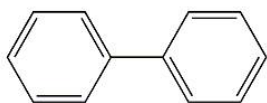
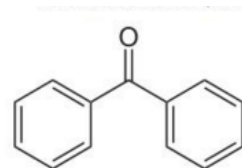

Figure 8: molecular structure of Biphenyl
Figure 7: Molecular structure of Benzophenone
In part A, we were able to deduce that salt #92 is crystallised Biphenyl. Referring back to figure 1, both spots on the sample and reference lane have the same Rf values of 0.91. This indicates that the sample lane has the same polarity as that of Biphenyl (the reference) which can be used to conclude that salt #92 is crystallised Biphenyl. In addition, the co-spot lane is used to identify close spots on the sample and co-spot. It is made by marking the sample and reference on the middle lane, this can tell that if there is only one spot after the TLC process then it means that the sample and reference compound are the same. Also we can refer to figure 2 to see that the Rf values of the sample and reference (Benzophenone) are different since there are two different points which indicates that they are not the same substances. Furthermore, we can compare the polarities of Benzophenone and Biphenyl to support the idea. Biphenyl has an Rf of 0.84 on the TLC plate while Benzophenone has an Rf of 0.71. This indicates that Biphenyl is less polar than Benzophenone. Since compounds with less polarity go up further on a TLC plate, they give lower Rf values. Looking at the molecular structure can give an idea about the polarity of Biphenyl and Benzophenone. Referring to figure 7 it can be noticed that there is an oxygen atom which is considered a high electronegative atom and causes the molecule to be polar when compared to Biphenyl which is a perfect non-polar molecule in which the dipoles cancel out each other.
c.) Benzophenone (refer back to figure 7), biphenyl (refer back to figure 8) and benzoic acid: The least polar molecule out of these three is the biphenyl, because of the absence of a polar functional group. The benzophenone has a carbonyl group, however, the carbonyl group is less polar than the alcohol group on the benzoic acid, which has a hydrogen atom connected to the Oxygen rather than a carbon atom, and as mentioned in question 1, the difference in electronegativity is higher between those two atoms, and therefore the benzoic acid is more polar, and will therefore have a smaller Rf value.